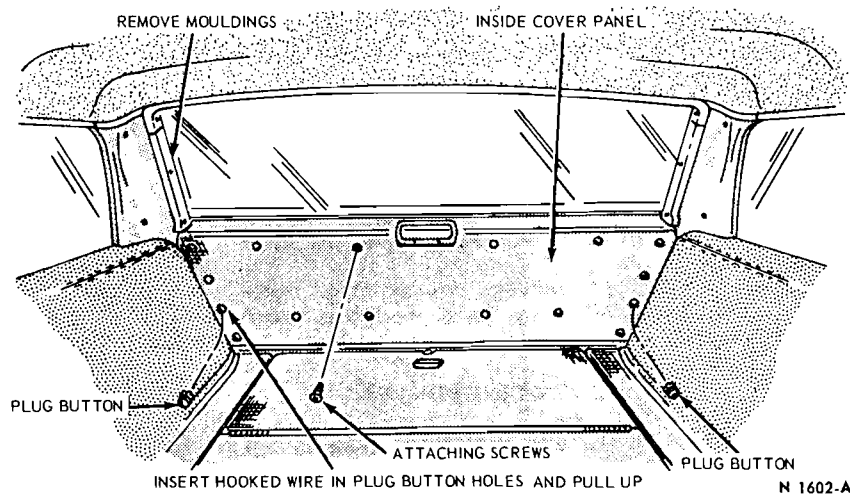

FIG. 18—Tailgate Emergency Opening — Typical
3. Remove one plug button from each side of the tailgate (Fig. 18).